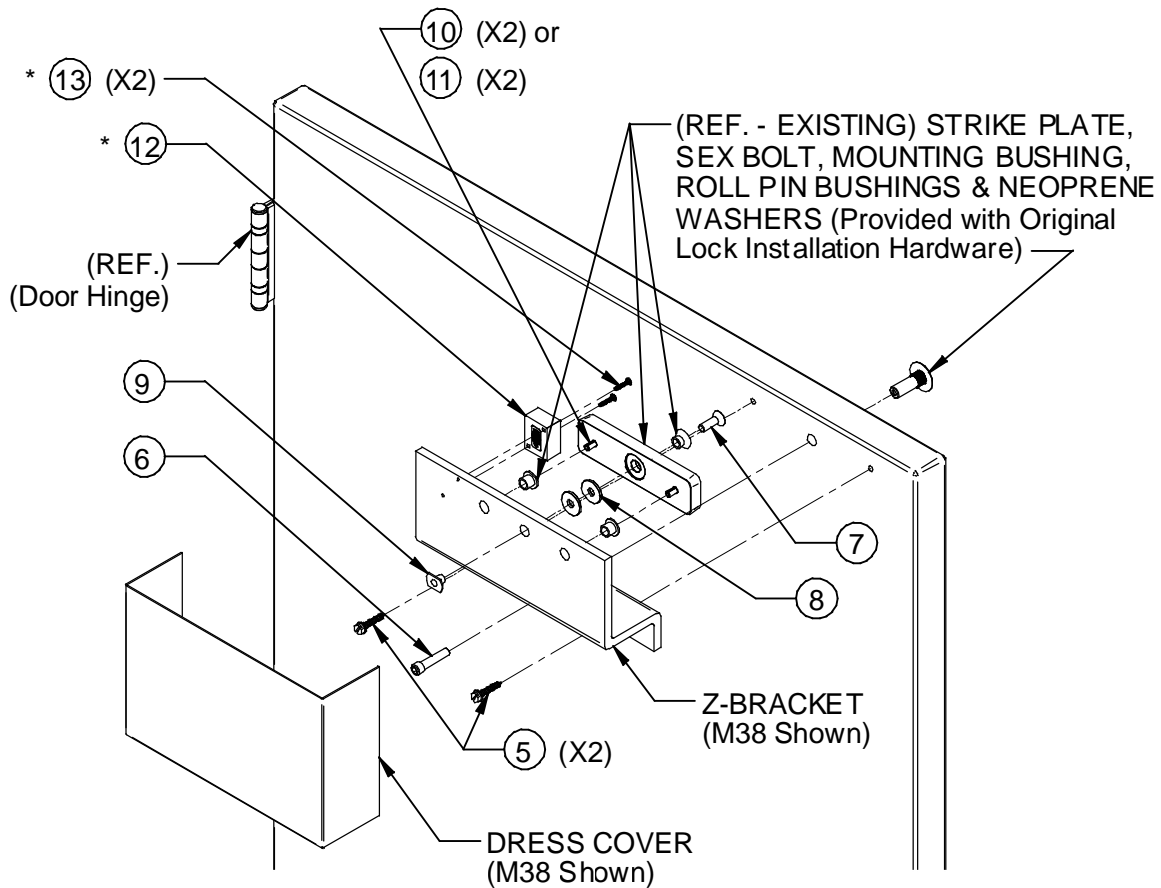

Figure 5
After the mounting of the lock/TJ-bracket has been completed, use Figure 5 and the following step-by-step installation sequence to complete the mounting of the Z-Bracket and strike assembly to the door:
- Reinstall the Z-Bracket to the door using the two (2) #14 X 1-1/4" long slotted hex head type "A" screws (Item #5).
- Insert the two (2) strike roll pin bushings into the 1/2" [12.7mm] diameter holes in the Z-Bracket (See Figure 5). **Note:** The roll pin bushings will need to be cut to the same thickness as the Z-Bracket. This is required so that the bushings do not extend beyond the surface of the Z-Bracket and interfere with the Dress Cover installation.
- Install two (2) of the neoprene washers (Item #8) over the screw on the opposite side (roll pin hole side) of the strike.
- Verify proper spacing relationship between face of lock (magnet) and strike plate. The face of the strike should contact the face of the lock when the door is closed. **Note:** A total of four (4) washers (Item #8) are provided (between the original lock hardware pack and the one in this kit). **Note:** Usually 2-3 washers are adequate to provide correct spacing, and washers may be added or removed as necessary to create proper fit, but at least one (1) washer must be installed between the strike and Z-Bracket.
- Remove the strike plate from the Z-Bracket and place on a clean, flat surface. Using a hammer, insert and lightly tap to install the two (2) roll pins (Item #10 or #11) into the two (2) 1/4" [6.4mm] diameter recesses of the strike. **Note:** Care should be taken when installing roll pins into the strike. Excessive impact to the strike or over-driving the pins into the recesses may distort the contact surface of the strike which will affect the holding force of the lock.